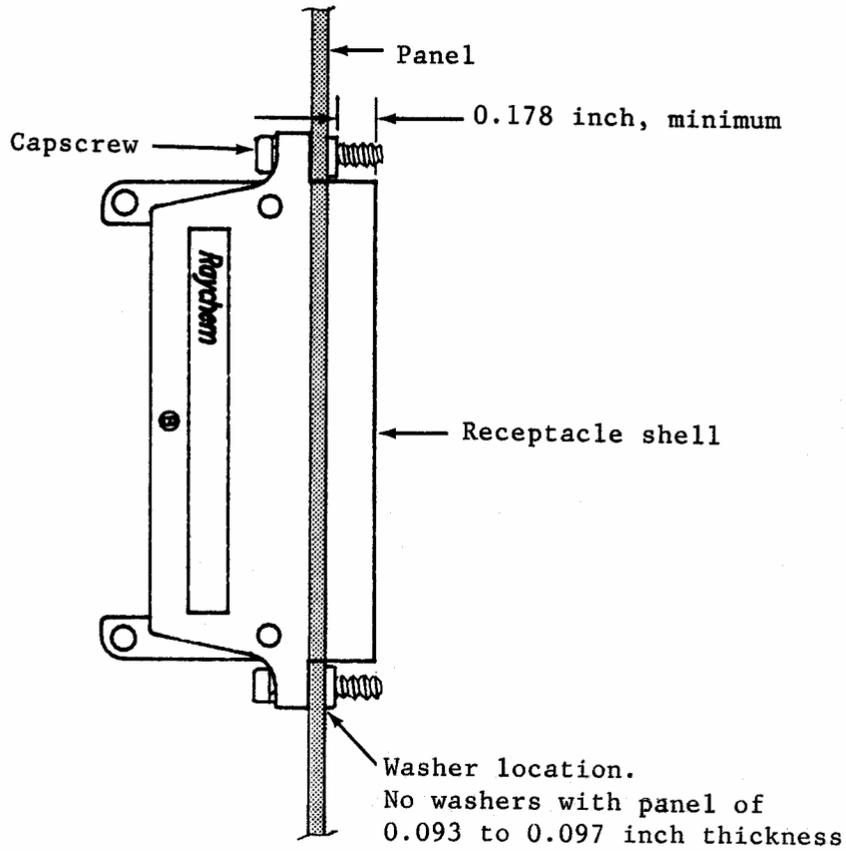

Figure 6. Panel Mounting Details
2. Mount the receptacle shell as shown in Figure 6, using the required number of washers.
3. Make sure that the distance between the retainer bushing and the front of the receptacle shell is 0.178 inch or more, as illustrated in Figure 6.